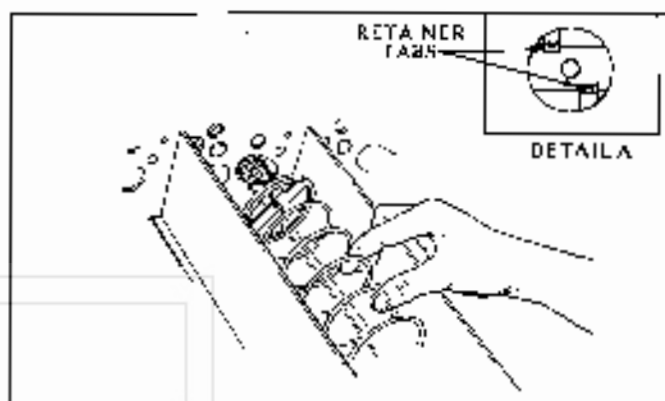

Figure 3. REMOVING AND INSTALLING SPIRAL.
4. REMOVAL OF SPIRAL: To remove the spiral, grasp the spiral near the rear of the shelf and pull forward. To install a spiral, align the hole in the cross strap, at the rear of spiral, with the motor shaft. (See Figure 3). Be sure the front end of the spiral is positioned properly (with the
front end of spiral pointing downward on the left side) (see Figure 2). Align strap between retainer tabs on spiral retainer (see Detail A, Figure 3) attached to motor shaft, push spiral to rear until both tabs snap over strap (see Figure 3). Give a light forward pull on front of spiral to check if it is locked in place.